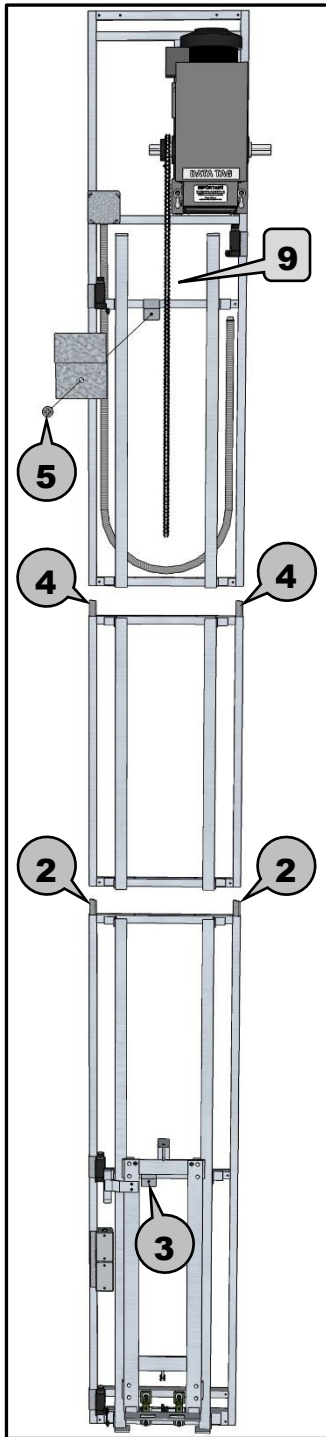

Figure 4
NOTE: For some motor on top configurations the chain is tied to the motor. When mounting a motor with chain, make sure the chain bundle is positioned down the track & rail in between track and not behind rail. (see Page 11, Figures 4 & 5, **9**)
- 2** Drop two (2) stacking pins into the top of the two outer vertical tubes of the bottom section, and position section centered against the mounting wall. (**see Figure 4**)
- 3** Use provided frame clip and 2" screw to temporarily hold section in place against the wall. Make sure screws go into solid wood. (**see Figure 4**)
- 4** Drop two (2) stacking pins into the top of the two outer vertical tubes of the next section, and position section on top of previous section using the stacking pins to guide it into place centered against the mounting wall. (**see Figure 4**)
- 5** Use provided frame clip and 2" screw to temporarily hold section in place against the wall. Make sure screws go into solid wood. (**see Figure 4**)